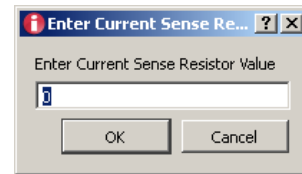

FIGURE 5. CURRENT SENSE DIALOG BOX
- Enabling the current functional block on the DPM interface requires the user to enter a shunt resistor value. The entered value is stored in the DPM calibration register and is used to calculate the current or power depending on the enabled check box. Figure 5 illustrates the dialog box that request the shunt resistor value when current functionality is enabled.